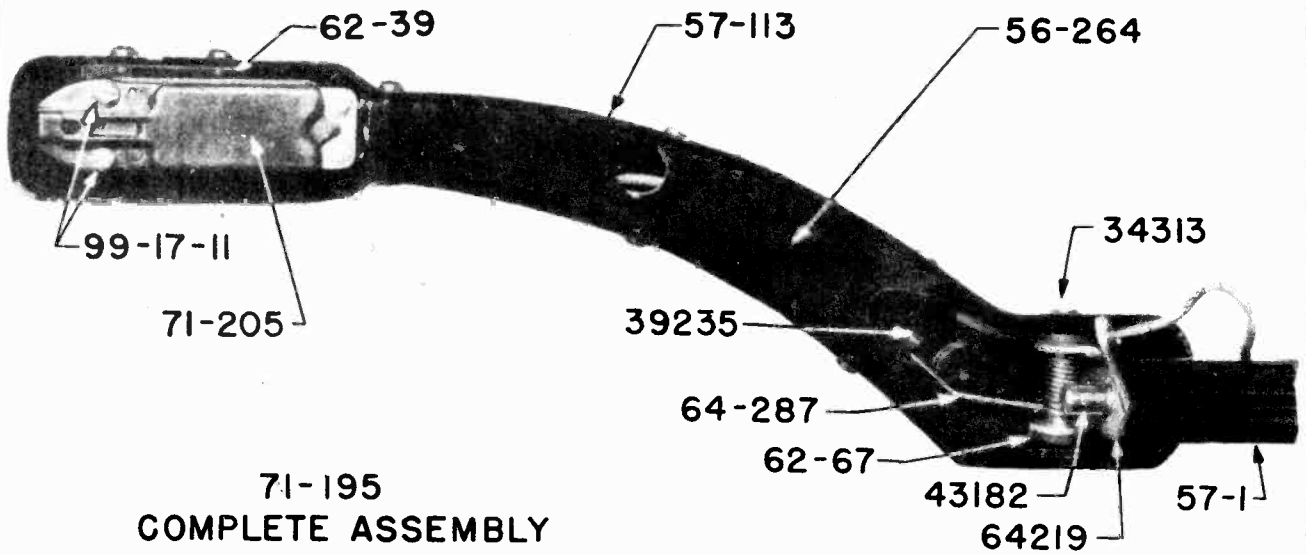

FIGURE 4
9. ADJUSTMENT OF TONE ARM 71-195 (Fig. 4)